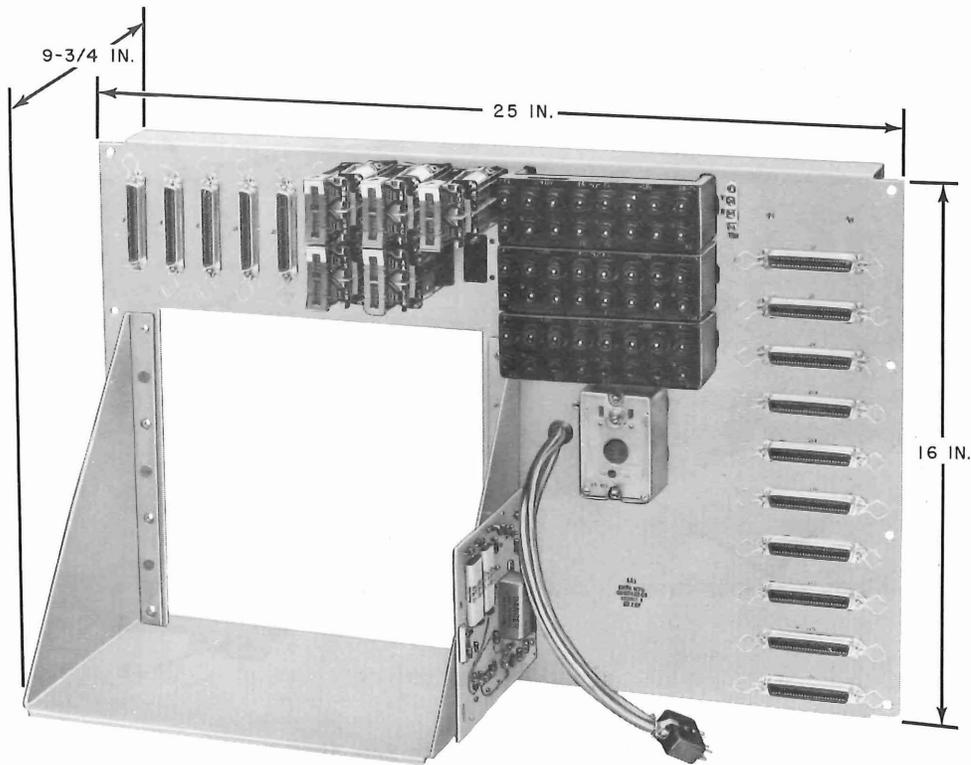

Fig. 8—1A1 Data Mounting
2.17 The 1A1 Data Mounting (Fig. 8) contains the common control logic circuits that are used to control the status of the data sets. A common power unit (31A) provides +18V dc, 5 amps; -18V dc, 5 amps; -24V dc, 0.5 amps; and 10V ac, 1.5 amps to drive the logic circuits in the 1A1 Data Mounting, the lamps and buzzer on Data Auxiliary Set 804J-type, and up to 20 data sets with their associated 2A1 Data Mounting circuitry. Sixteen 50-pin connectors are provided to interconnect the 1A1, 2A1, 1A2 Data Mountings, Data Auxiliary Set 804J-type, the telephone lines, and key telephone equipment (if provided). An interrupter (KS-19175-L1) is also provided to generate various lamp indications.